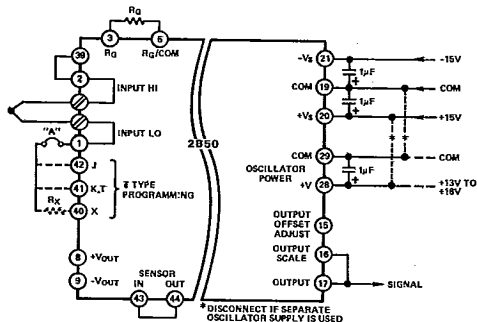

Figure 2. Basic 2B50 Application
The connections shown in Figure 2 are common to most applications using the 2B50, and, in many cases, will be all that is required.
Two sets of parallel thermocouple input connections are provided. The thermocouple input may be connected by screw terminals (Input+, Input-) or to terminal Pins 1(-) and 2(+) in cases where thermocouples are to be remotely terminated. The following sections describe a basic thermocouple application, as well as detail some optional connections to enhance performance in more demanding applications. Jumper A (Figure 2) is used to disconnect cold junction compensation circuitry during offset adjustments.
The gain of the 2B50 is set by a user-supplied resistor ( $R_G$ ) connected as shown in Figure 2. Gain will normally be selected so that the maximum output of the signal source will result in a plus full scale output swing. The resistor value required is determined by the equation:  $R_G = 200k\Omega/G-1$ .
2. Disconnect cold junction compensation circuitry by removing Jumper "A" (Figure 2).